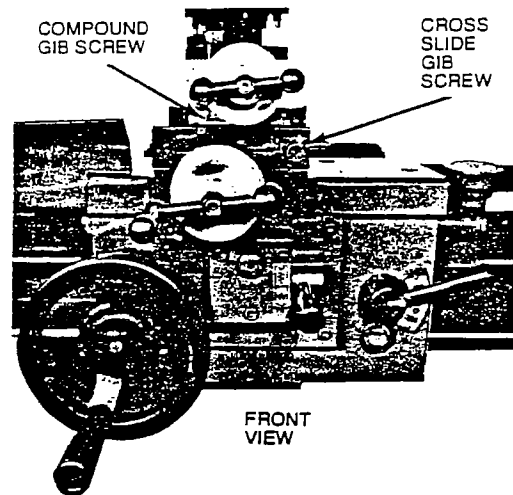

FIGURE 33
2. Turn gib screw in front (Figure 33) evenly until cross slide moves with slight drag.
2. Turn gib screw in front (Figure 33) evenly until compound slide moves with slight drag.